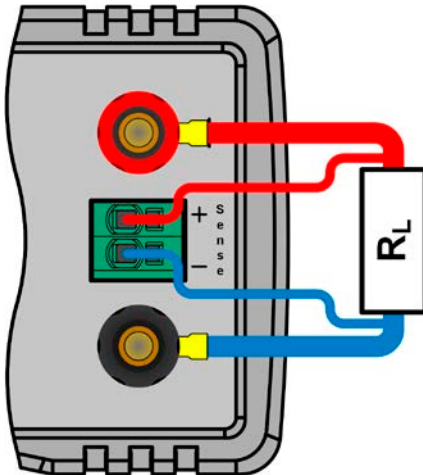

Figure 6 - Example for remote sensing wiring
- Remote sensing is only effective during constant voltage operation (CV) and for other regulation modes the sense input should be disconnected, if possible, because connecting it generally increases the oscillation tendency.
- Sensing cables must be connected + to + and - to - at the load, otherwise the sense input of the device can be damaged. For an example see *Figure 6* below.